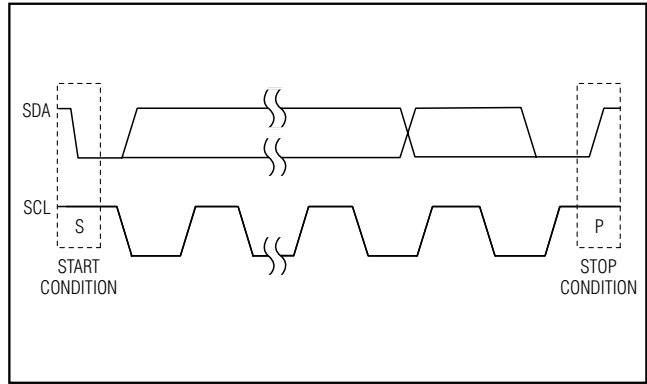
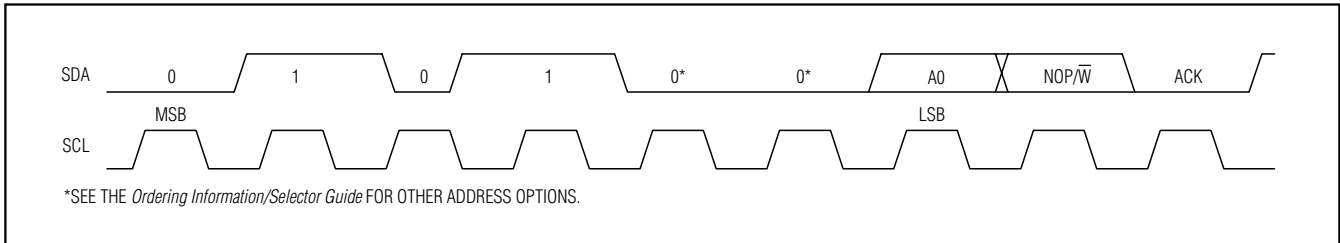
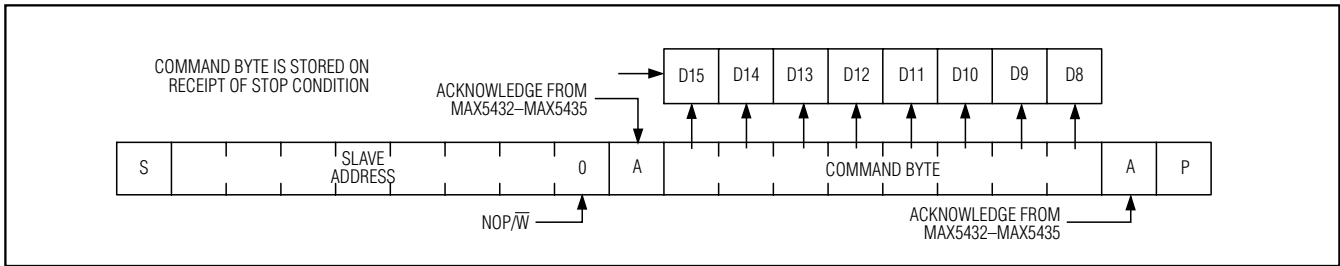

Figure 3. Start and Stop Conditions
Figure 4. Slave Address
Figure 7. Command Byte Received
Each transmission consists of a START (S) condition (Figure 3) sent by a master, followed by the MAX5432–MAX5435 7-bit slave address plus the 8th bit (Figure 4), 1 command byte (Figure 7) and 1 data byte, and finally a STOP (P) condition (Figure 3).